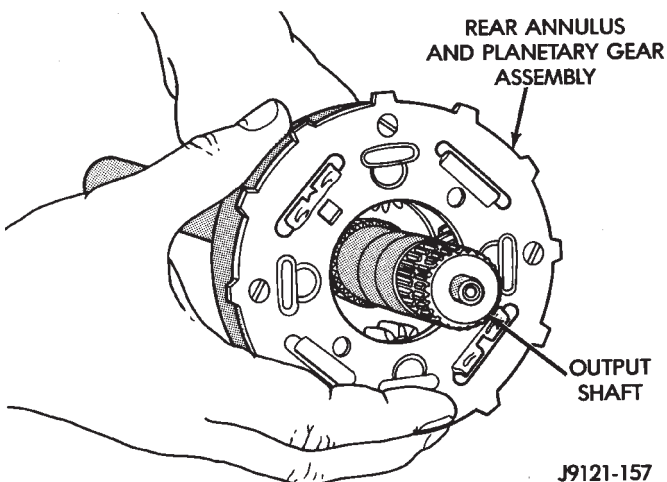

Fig. 229 Installing Rear Annulus And Planetary On Output Shaft
(5) Install assembled rear planetary and annulus gear on output shaft (Fig. 229). Verify that assembly is fully seated on shaft.